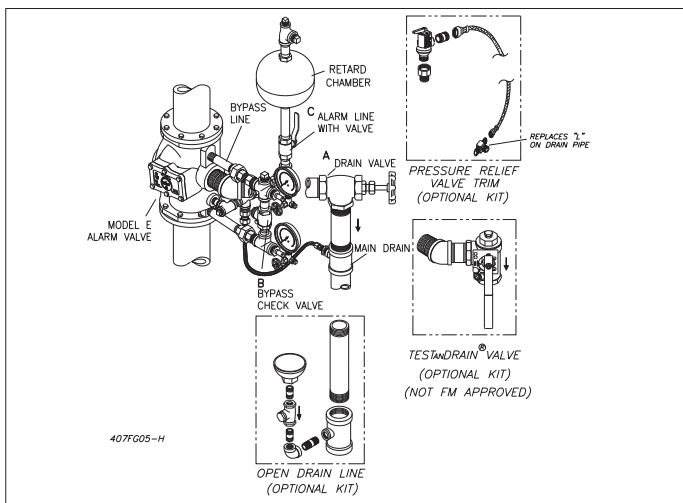
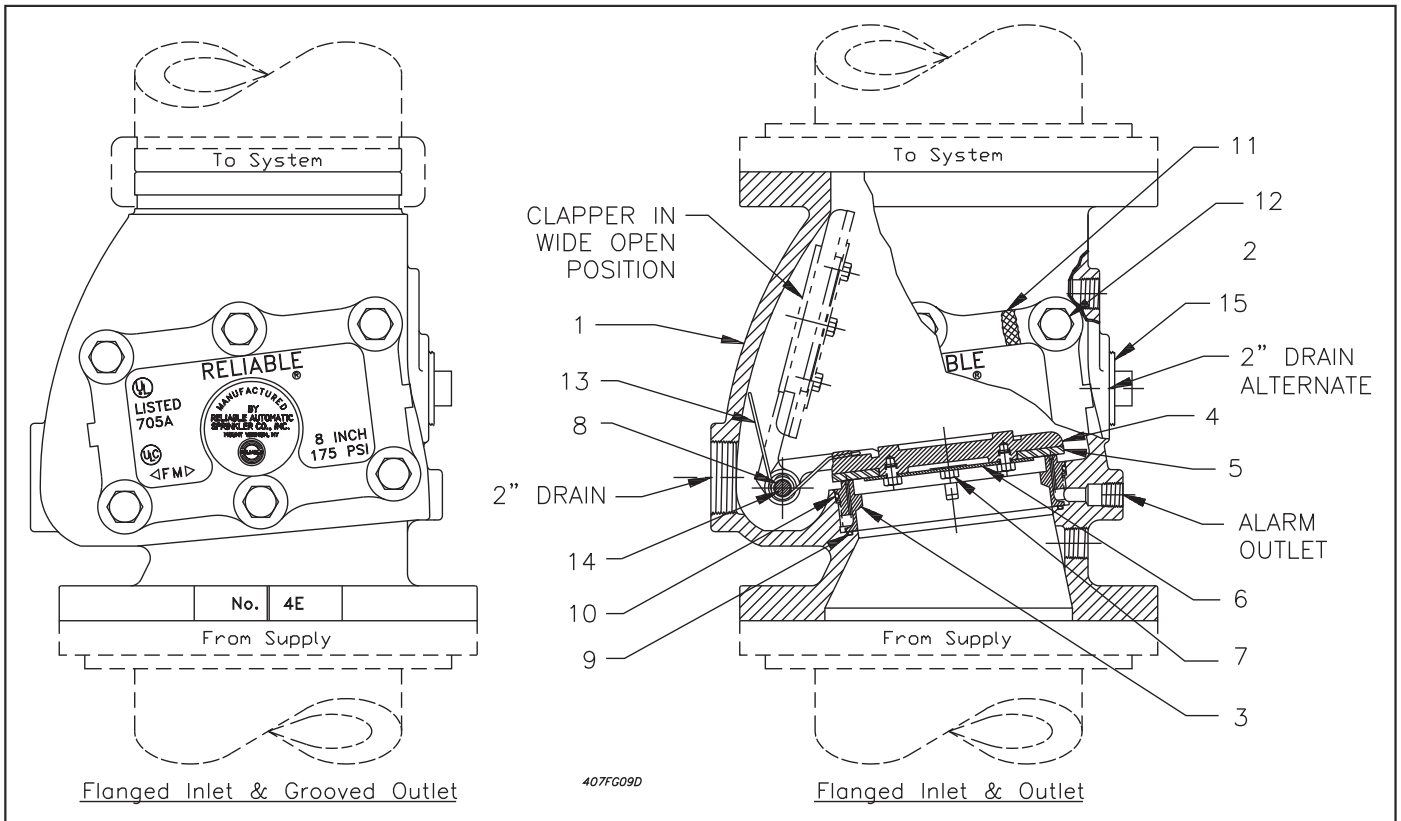

Fig. 7 - E3 Vertical Trim
Figure 9
The normal position of the alarm valve parts is shown in Fig. 9. Flow of water in the system piping resulting from the discharge through one or more fused automatic sprinklers causes the Clapper (4) to rise off the Grooved Seat (3) and permits water from the supply piping to enter the system.
1. The Bypass Line, Fig. 7, with Check Valve (B) allows surges to pass from the supply to the system side of the alarm valve clapper without lifting the clapper off its seat. Repeated surges build up an effective excess pressure in the system which steadies the clapper and prevents false alarms. Should a heavy surge force the clapper off its seat and allow water to flow into the alarm line, the Model E1 Retard Chamber comes into action.
Tests (see Figs. 7 & 8)
1. Open Valve (A), Fig. 7, to drain which should flush any loose matter off alarm valve seat. Close valve and observe if water flow ceases.
- 2) Clapper Rubber Facing and Clamping Ring Assembly: Item 5, Figure 9.
- 3) Seat "O"-Rings: Items 9 and 10, Figure 9.
- c. In either case (a or b), drain system by opening Valve (A), Figs. 7&8 to drain. Remove Cover (2), Fig. 9, Shaft Pipe Plug (14), Hinge Pin (8) and Clapper Assembly (4).
- 2) Remove "O"-Rings, Items 9 and 10, Fig. 9. Thoroughly clean "O"-Ring grooves and sealing surfaces. Inspect for damage or foreign material.
- 3) Replace Cover (2) being sure Cover Gasket (11) is in position and bolts and nuts are securely tightened.
- 4) Close Drain Valve (A), Fig. 7. Slowly open main control valve. Be sure Valve (C) and the main control valve are properly supervised in the OPEN position.
False alarms are generally caused by pressure surges in the water supply and can occur if the system loses its effective excess pressure (see "Operation"). Similar readings on the system and supply pressure gauges are a visual indication that the excess pressure condition has been lost. One or more of the following will contribute to this loss of pressure – Leaking system drain valves, leaking at the Alarm Valve Seat (3), Fig. 6, leaking between the Clapper (4) and the Facing (5), or leaking at the Bypass Check Valve (B), Fig. 7.